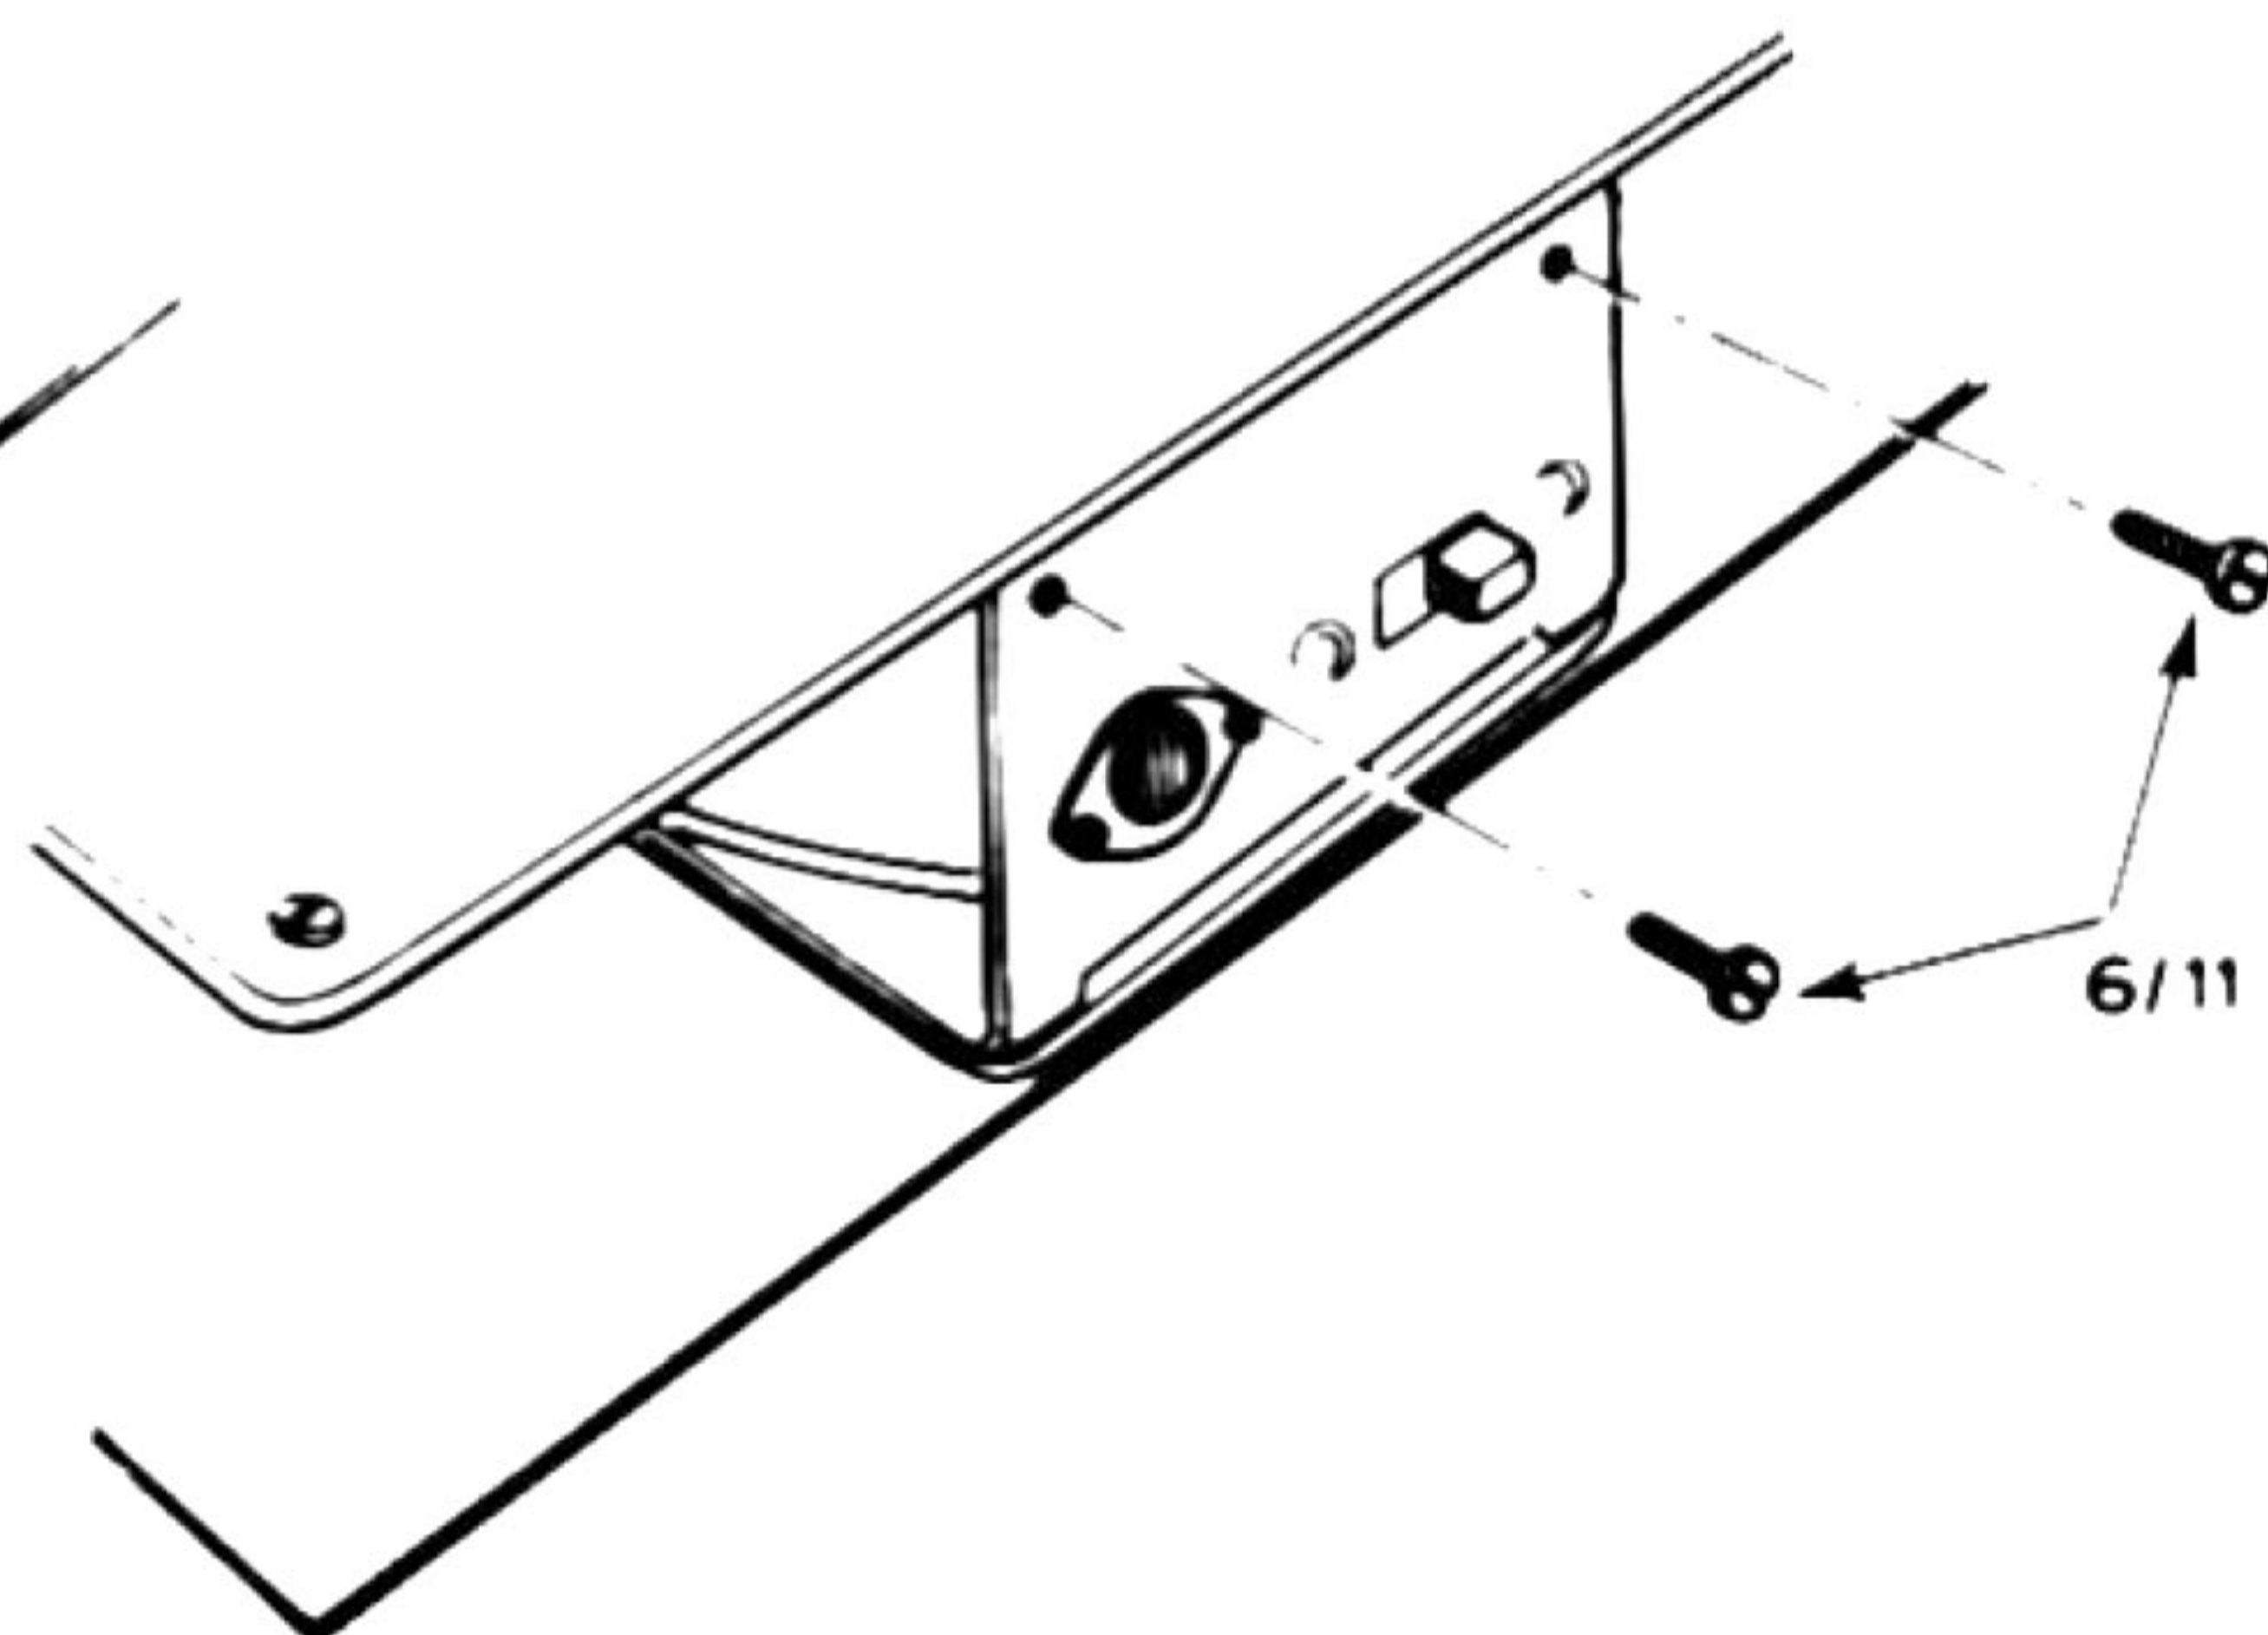

Fig 3.
4. Remove the two screws 6/11, which are at the top of the plug and switch plate on the back of the machine, see Fig. 3.